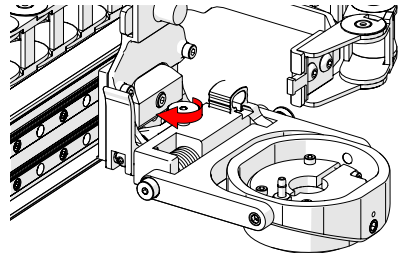

Fig. 139 - Tighten knob
5. Tighten the probe holder adjustment knob (*Fig. 139*).